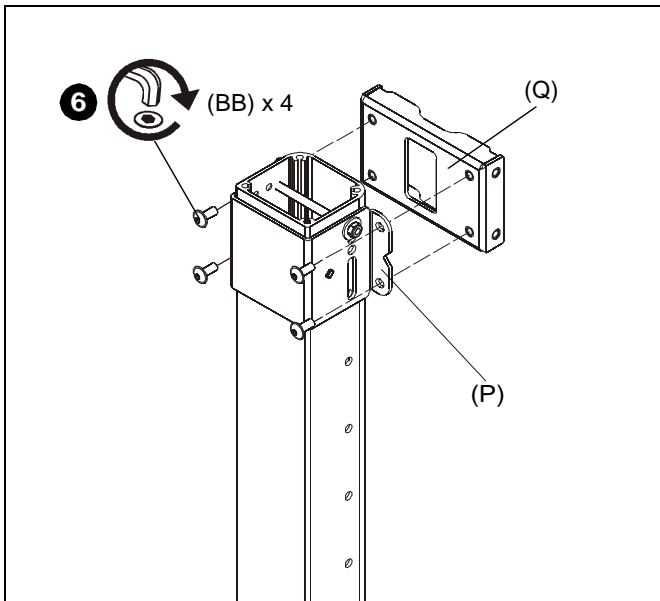

Figure 8
6. Use four 5/16-18 x 3/4" button head flange screws (BB) to secure each attached clamp bracket (P) to each quick connect base (Q). (See Figure 8)